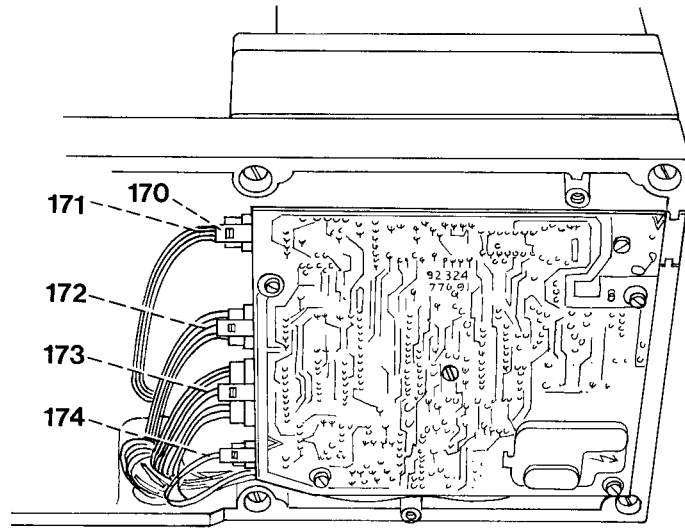

Fig. 50b
- The four-bush connector 171 into the four-pin receptacle (Fig. 50b).